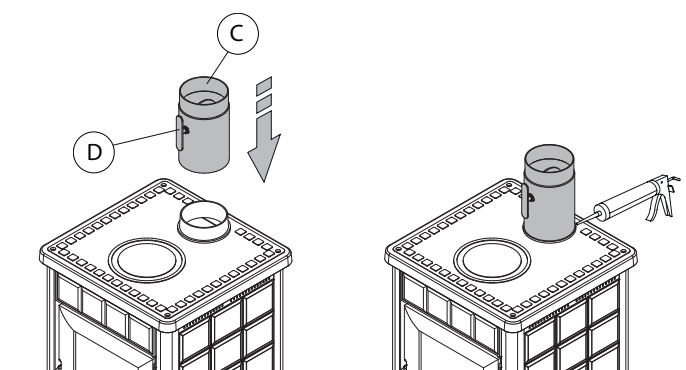

Fig. 6.2d
- install the smoke valve pipe (C), keeping attention that the adjusting handle (D) is facing forward; seal with silicone for high temperature the valve in correspondence with the cast iron collar (**Fig. 6.2d**).